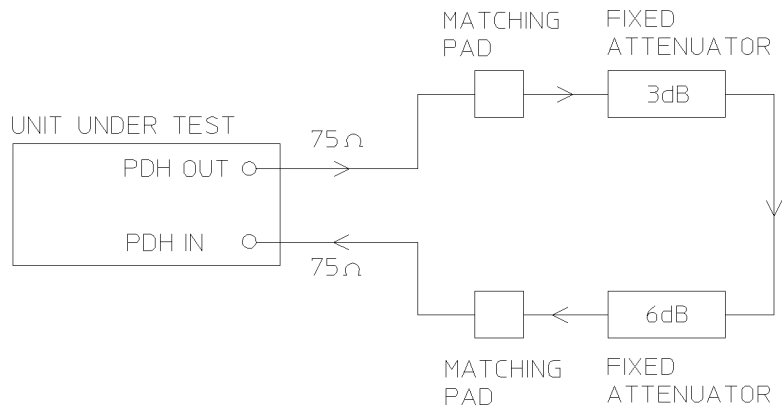

Figure 3-23 SPDH Receiver Monitor Input
2. Connect the equipment as shown in Figure 3-23.